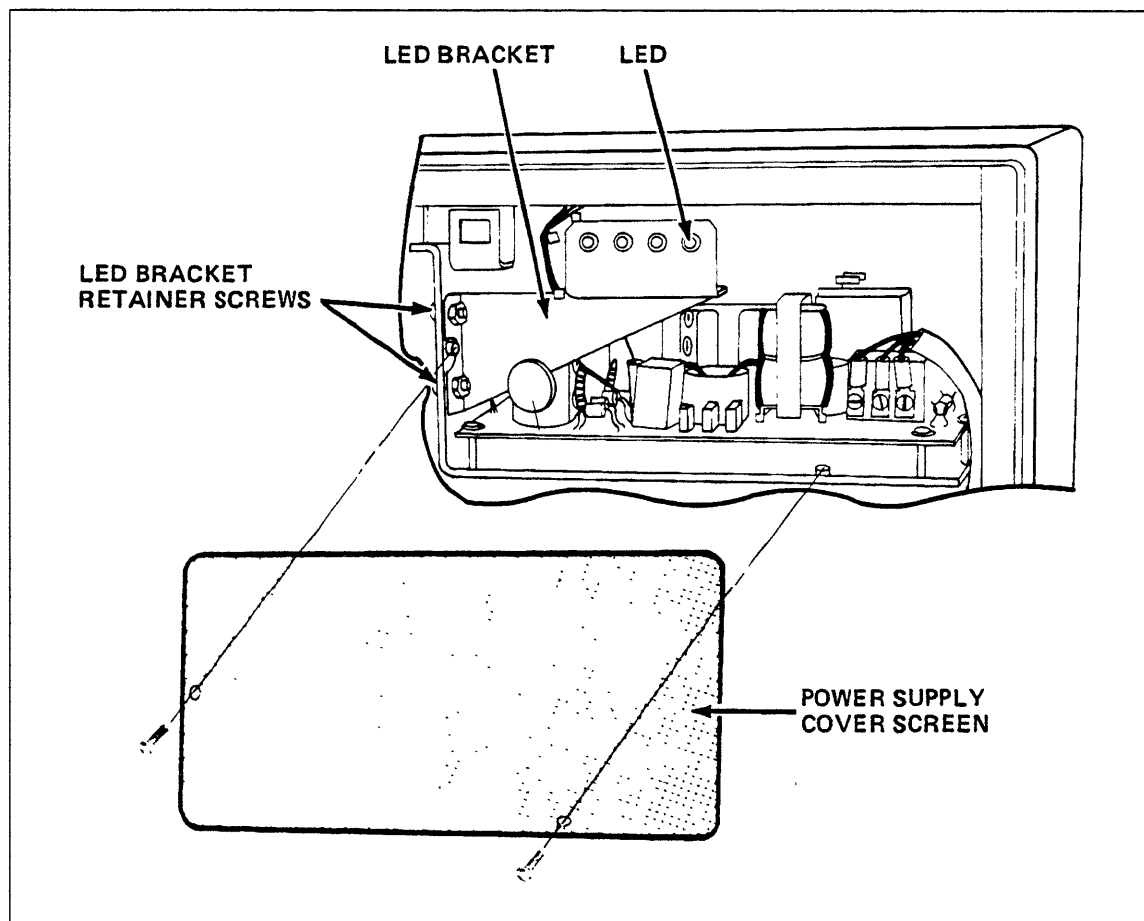

Figure 9-17. LED Bracket (Front View)
3. Remove safety screen from front of power supply by removing two screws that connect it to DI base (figure 9-17).
4. Remove two retainer screws (figure 9-17) from left side of LED bracket.